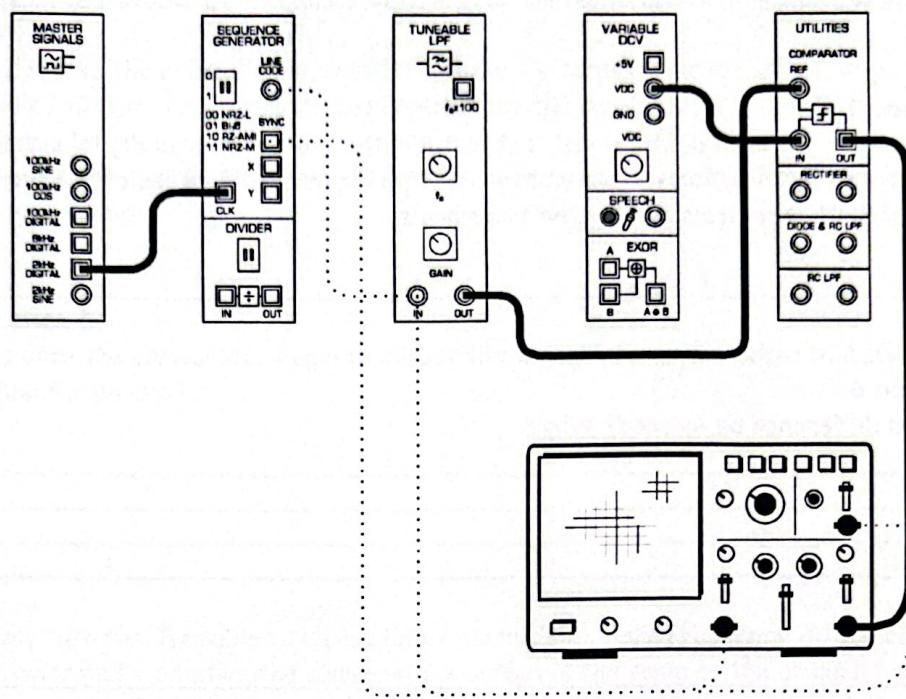

Figure 11
34. Disconnect the patch lead to the VCO module's *DIGITAL* output then modify the set-up as shown in Figure 11 on the next page.